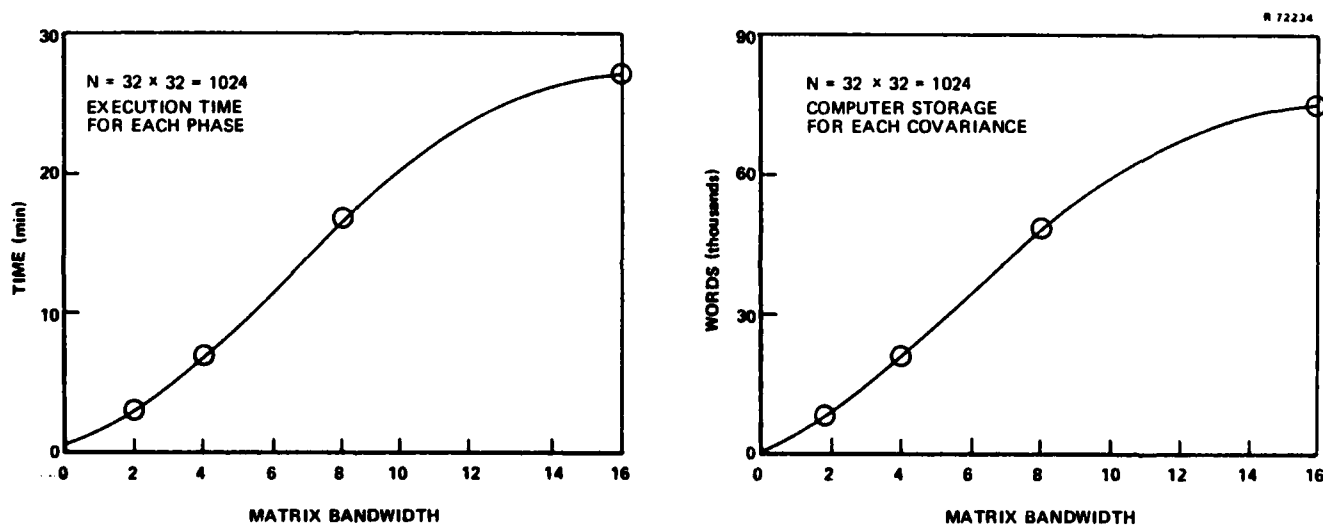

Figure 5.2-3 Time and Storage Variation With Bandwidth
Increasing the matrix bandwidth parameter (MB) increases accuracy, execution time, and computer storage requirements. Typical time and storage variations with bandwidth is shown in Fig. 5.2-3. Accuracies are, in general, problem dependent, but full accuracy is attained when the bandwidth is one half the dimension.